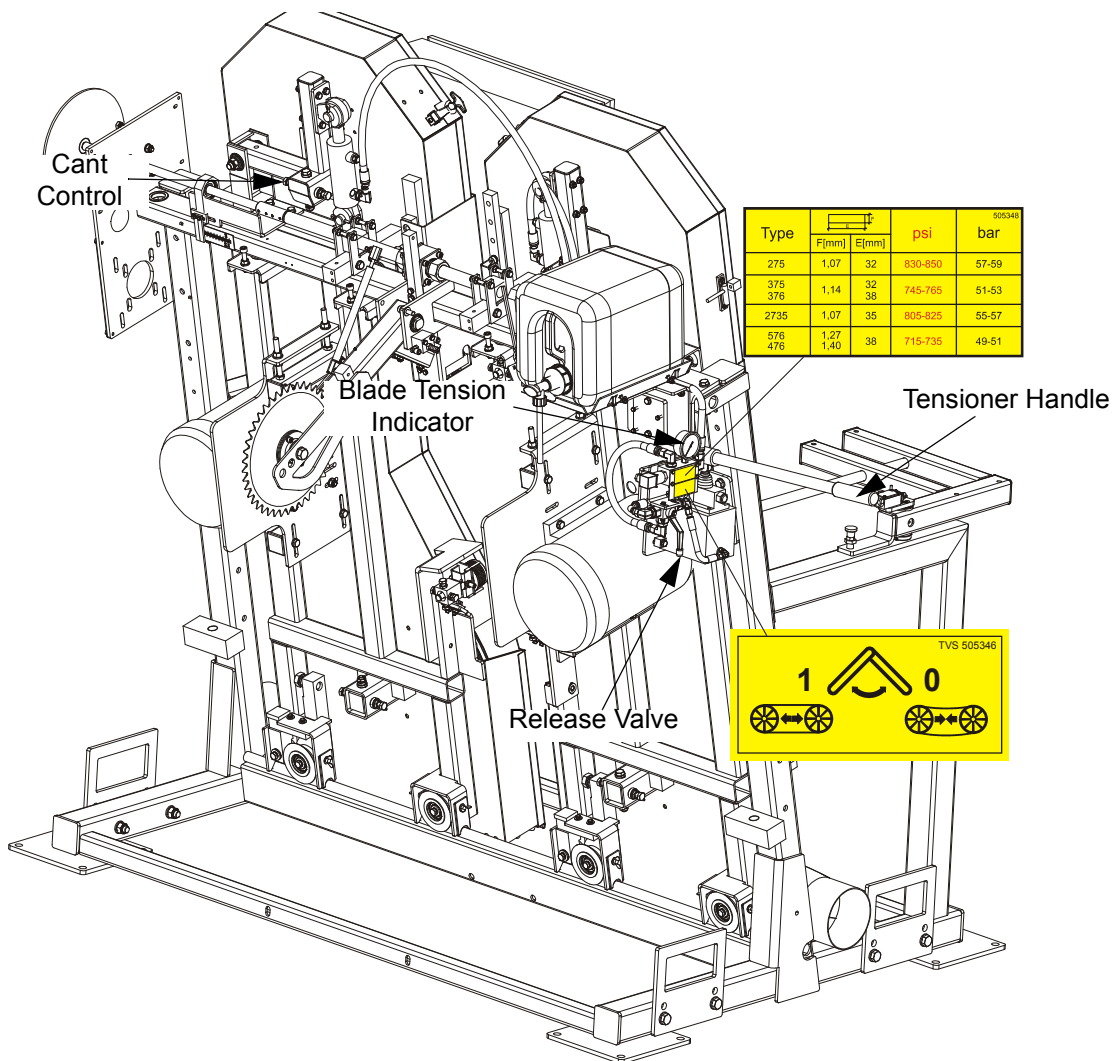

FIG. 2-3
See Figure 2-3. Place the provided handle in the blade tensioner socket and secure with a screw. Set the tensioner valve to position “1”. Move the tensioner handle up and down to tension the blade. Depends on the installed blade type, tension the blade to the value shown on the decal located below blade tension valve. Values “F” and “E” are: blade thickness and blade width. Check the blade tension occasionally when adjusting the cant control or while cutting and adjust if necessary. As the blade and belts heat up and stretch, the blade tension will change. Also, ambient temperature changes can cause tension to change. To release the blade tension set the tensioner valve to “0” position.
5. Use the cant adjustment bolt, shown in **Figure 2-3**, to adjust where the blade travels on the blade wheels.